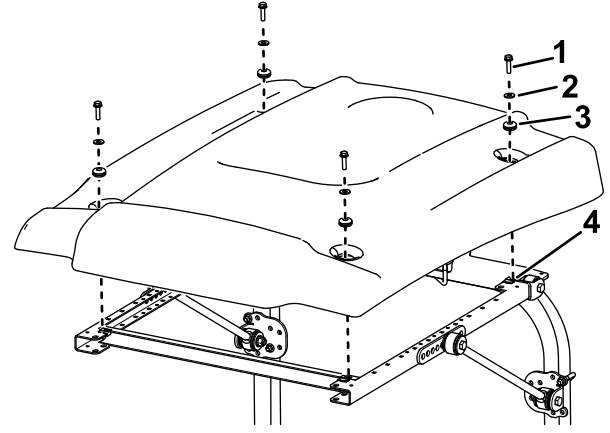

Figure 14
16. While aligning the mounting holes, position the sunshade onto the frame as shown in Figure 14.
17. Loosely mount each corner of the sunshade to the frame with a flange-head bolt (5/16 x 1 inch), a small washer, and a grommet (Figure 14).